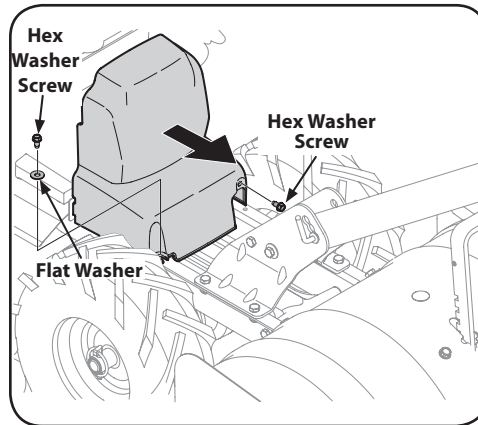

Figure 5-3
2. Remove the belt cover as seen in Figure 5-3, by first removing the two ¼-20 hex washer screws and one flat washer. Lift the belt cover up and away from the tiller and set in a safe location until reinstallation.